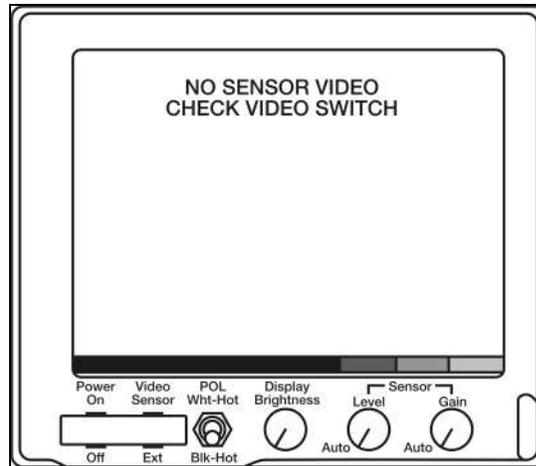

Figure 3-50. Driver Screen Display
- b. Leave the VIDEO switch in the SENSOR (up position) for sensing input from the Sensor Assembly to the display. For external input to display, set switch to EXT (down position) (see Figure 3-50).